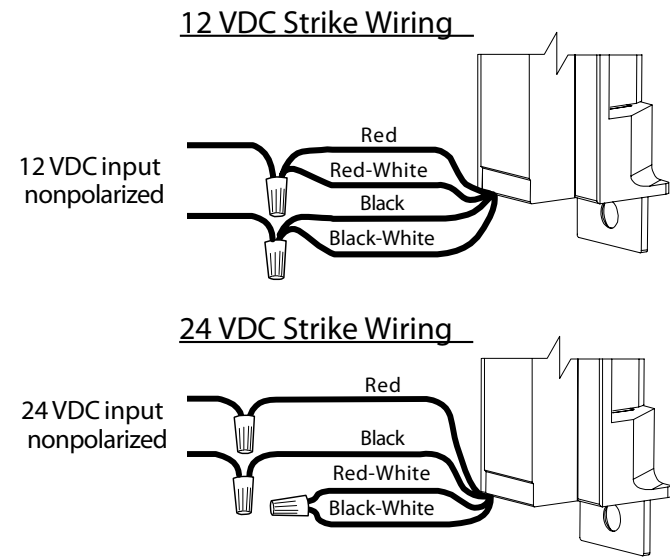

Figure 5
- Wire strike solenoid for proper voltage (Figure 5). Caution: Do not connect 24 VDC to 12 VDC configured strike.